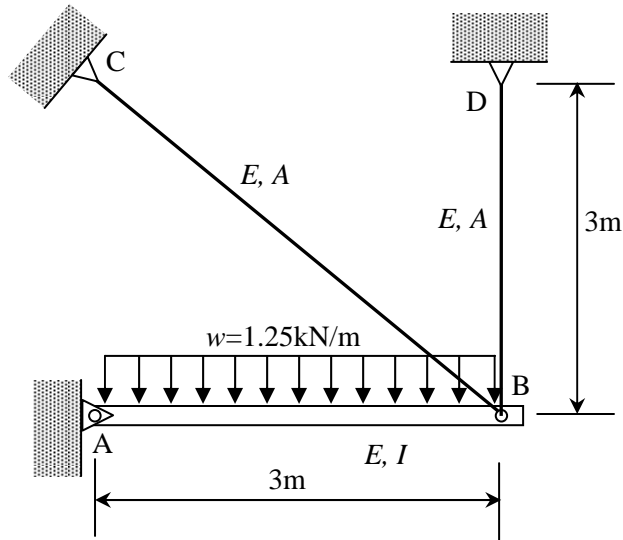
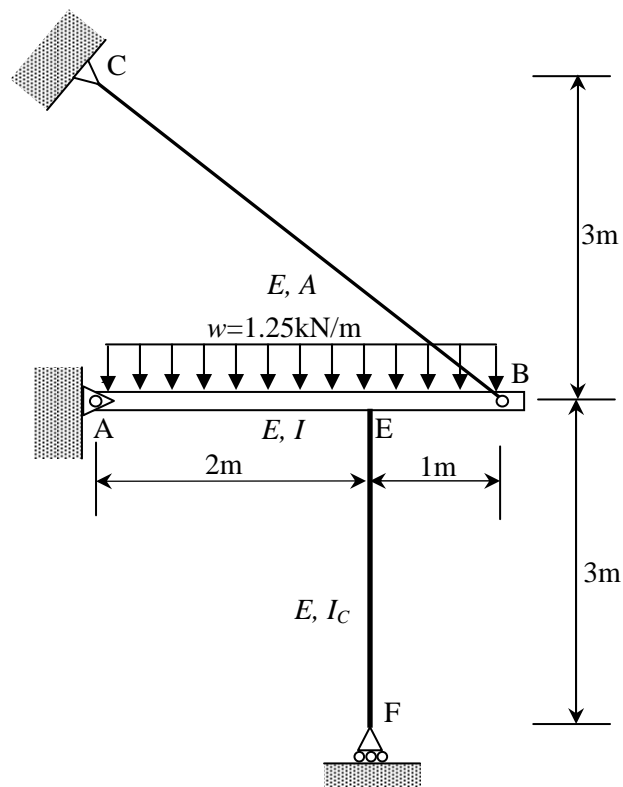

Figure 4
Figure 5 / Rajah 5
2. (a) Figure 4 shows a hinged beam suspended at point B by two cables. The beam carries a uniformly distributed load $w=1.25\text{ kN/m}$. Determine the reactions at support A and tension forces in cables BC and BD. Use method of least work. Neglect the effect of axial deformation of beam AB on deflection. It is given that: section moment inertia I for beam AB is $190 \times 10^6 \text{ mm}^4$, cross-sectional area A for both cables BC and BD is 150 mm^2 , Young's modulus E for beam and cables is 205 GPa .
- (b) It is found that cable BD shown in Figure 4 has failed to function and hence not able to carry load. The following modification as shown in Figure 5 has been suggested as a possible solution to reduce deflection at free end B due to failure of cable BD. The newly added vertical member EF is rigidly connected to beam AB at E and supported by a roller support at F. Data for E and I_C for member EF are as follows: $E=205\text{GPa}$, $I_C=1.15\times10^6\text{mm}^4$. Determine the axial force in member EF and cable BC. Use method of least work. Neglect the effect of axial deformation of both beam AB and vertical member EF on deflection.